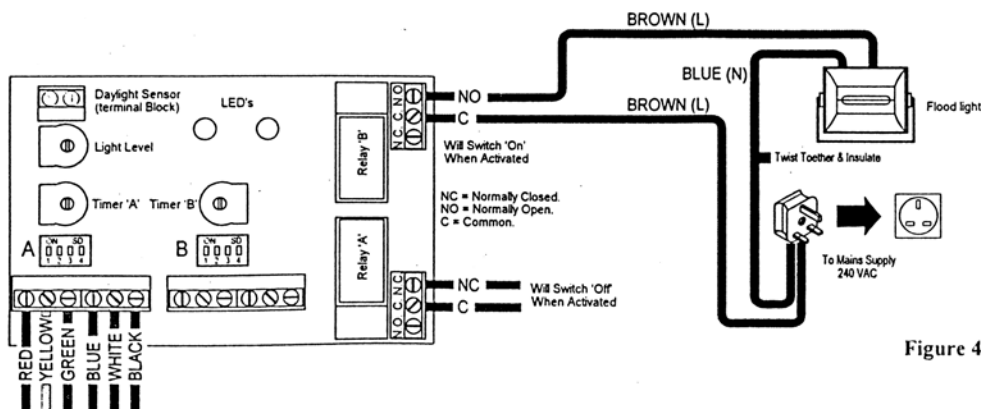

Figure 4.
A simple wiring example is shown below in figure 4. An earth wire will be required if the floodlight casing is made of metal. The earth wire will feed directly from the floodlight to the mains plug (i.e. same route as blue (N) wire, in figure 4).